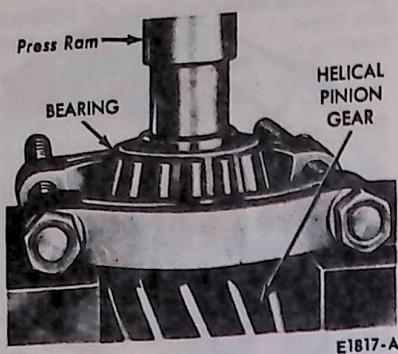

FIG. 17 Removing Cross Shaft Bearing
3. Press the remaining bearing from the cross shaft as shown in Fig. 17.